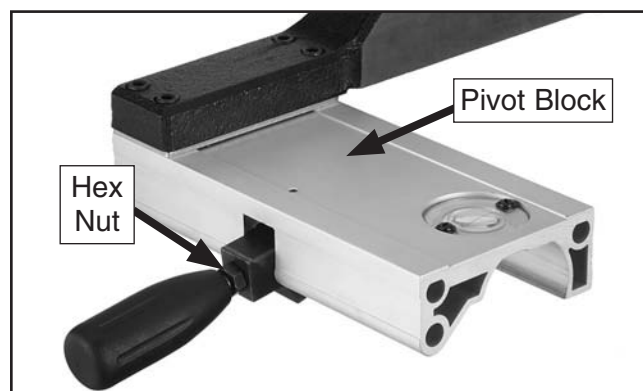

Figure 36. Handle installed on fence assembly.
3. Install an M8-1.25 hex nut on the fence handle, then thread the handle into the fence assembly, as shown in **Figure 36**. Tighten the hex nut against the fence pivot block to secure the handle.